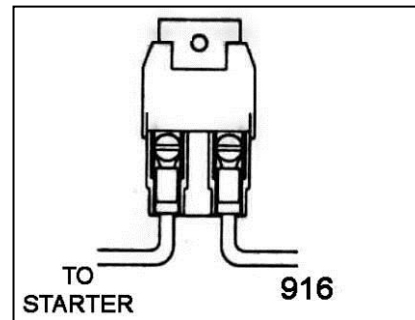

Figure 12-2 Maxi Fuse
- 12.2.4** Route the remainder of wire #916 from the Ammeter POSITIVE terminal to the Maxi Fuse terminal. Connect the other side of the Maxi Fuse (**Figure 12-2**) to the Starter Solenoid Battery (B+) terminal.